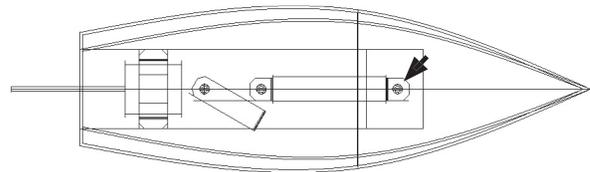

Fig. 66
Step 19. Click Copy and OK, **Fig. 66**.